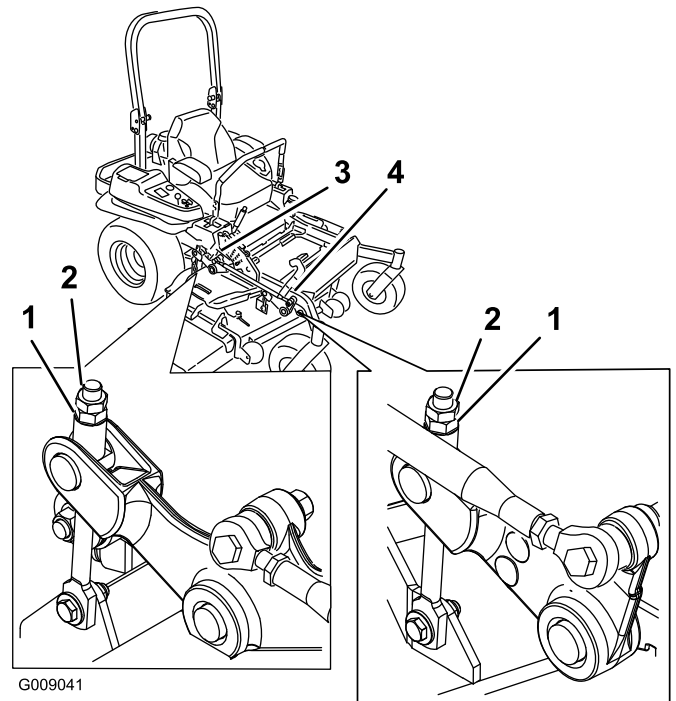

Figure 87
10. Fine-tune the adjustment nut on the front deck lift assembly by turning it (Figure 87).
- Fine-tune the adjustment nut on the front deck lift assembly by turning it (Figure 87).